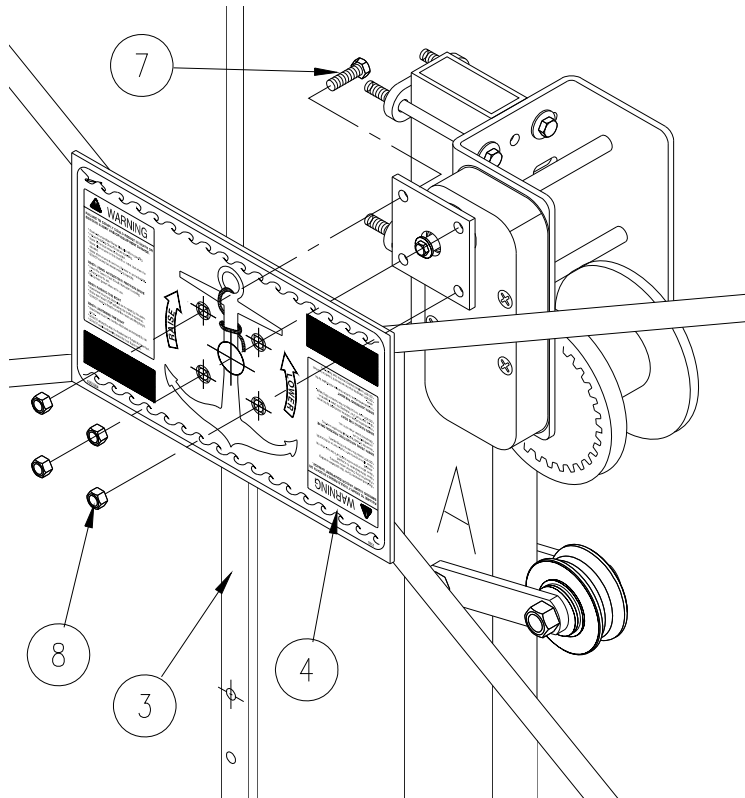

Figure 2-5.
2. Refer to Figure 2-5. Attached the handwheel (3) to the handwheel adapter (6) using the 3/8-16 x 1-1/4 HHCS (7) and hex nut (8).